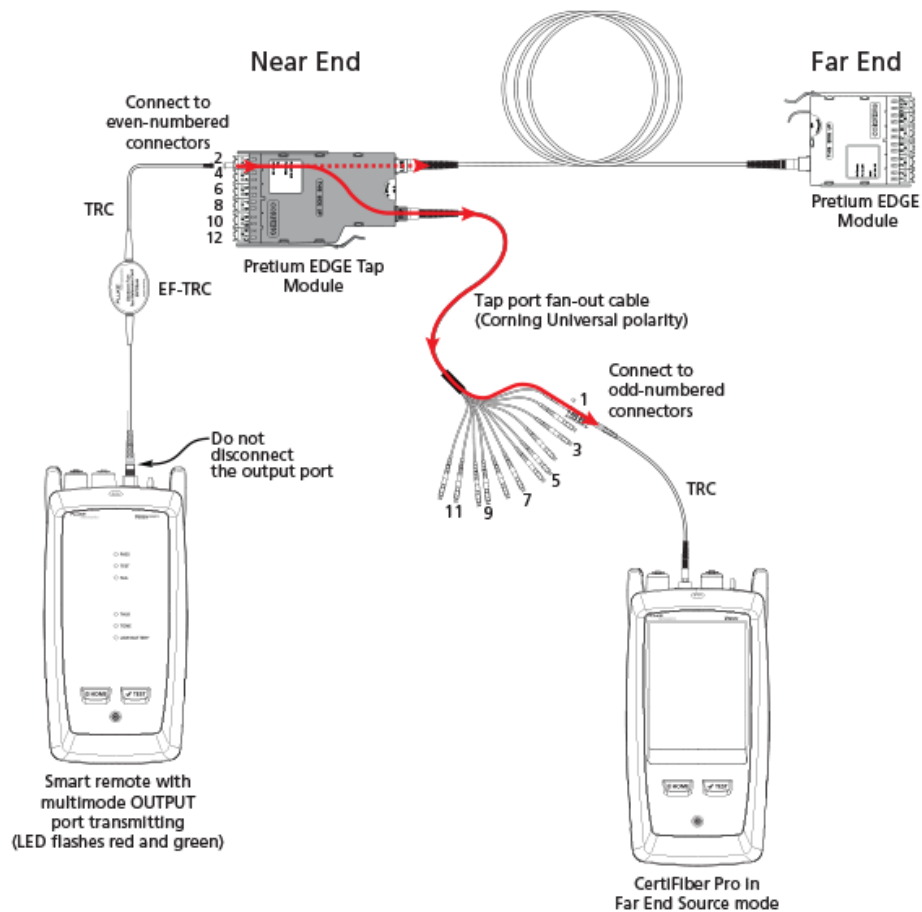

Figure 7. Connections for Testing the Tap Port Links from the Near End through a Fan-Out Cable
3. Make the connections shown in Figure 7 if you will do the